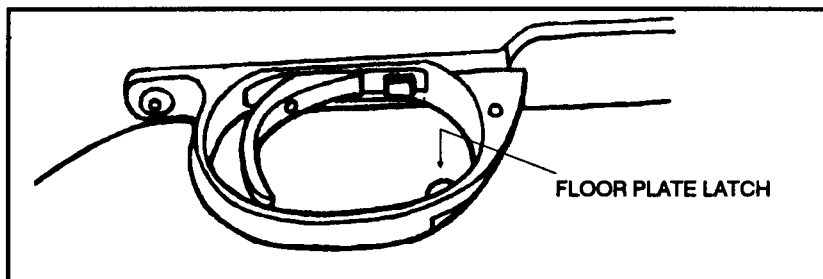

Figure 2-17. Floor plate latch.
- (1) Point the muzzle in a safe direction.
- (2) Ensure the safety is in the “S” position.
- (3) Raise the bolt handle.
- (4) Put one hand over the top ejection port. Slowly pull the bolt handle back with the other hand to remove the cartridge from the chamber.
- (5) Remove the cartridge from the rifle.
- (6) Put a hand under the floor plate.
- (7) Push the floor plate latch to release the floor plate (Figure 2-17, page 2-18). The magazine spring and follower will be released from the magazine.
- (8) Remove the released cartridges.
(9) Push in the magazine follower, then close the floor plate.